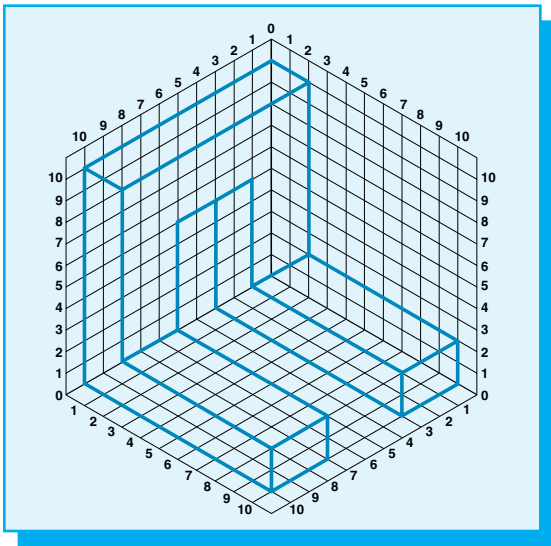

Figure 3-41
1. Sketch the isometric drawings in **Figures 3-41** through **3-47** on isometric grid paper.